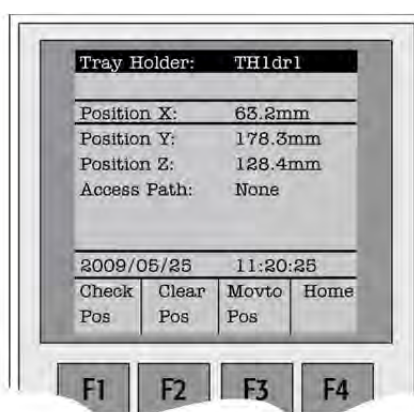

Figure 24. Menu Screen Object Tray Holder
4. After selecting "Named Tray Holder", the X-, Y-, Z- positions associated with the object will be displayed (see Fig. 24);